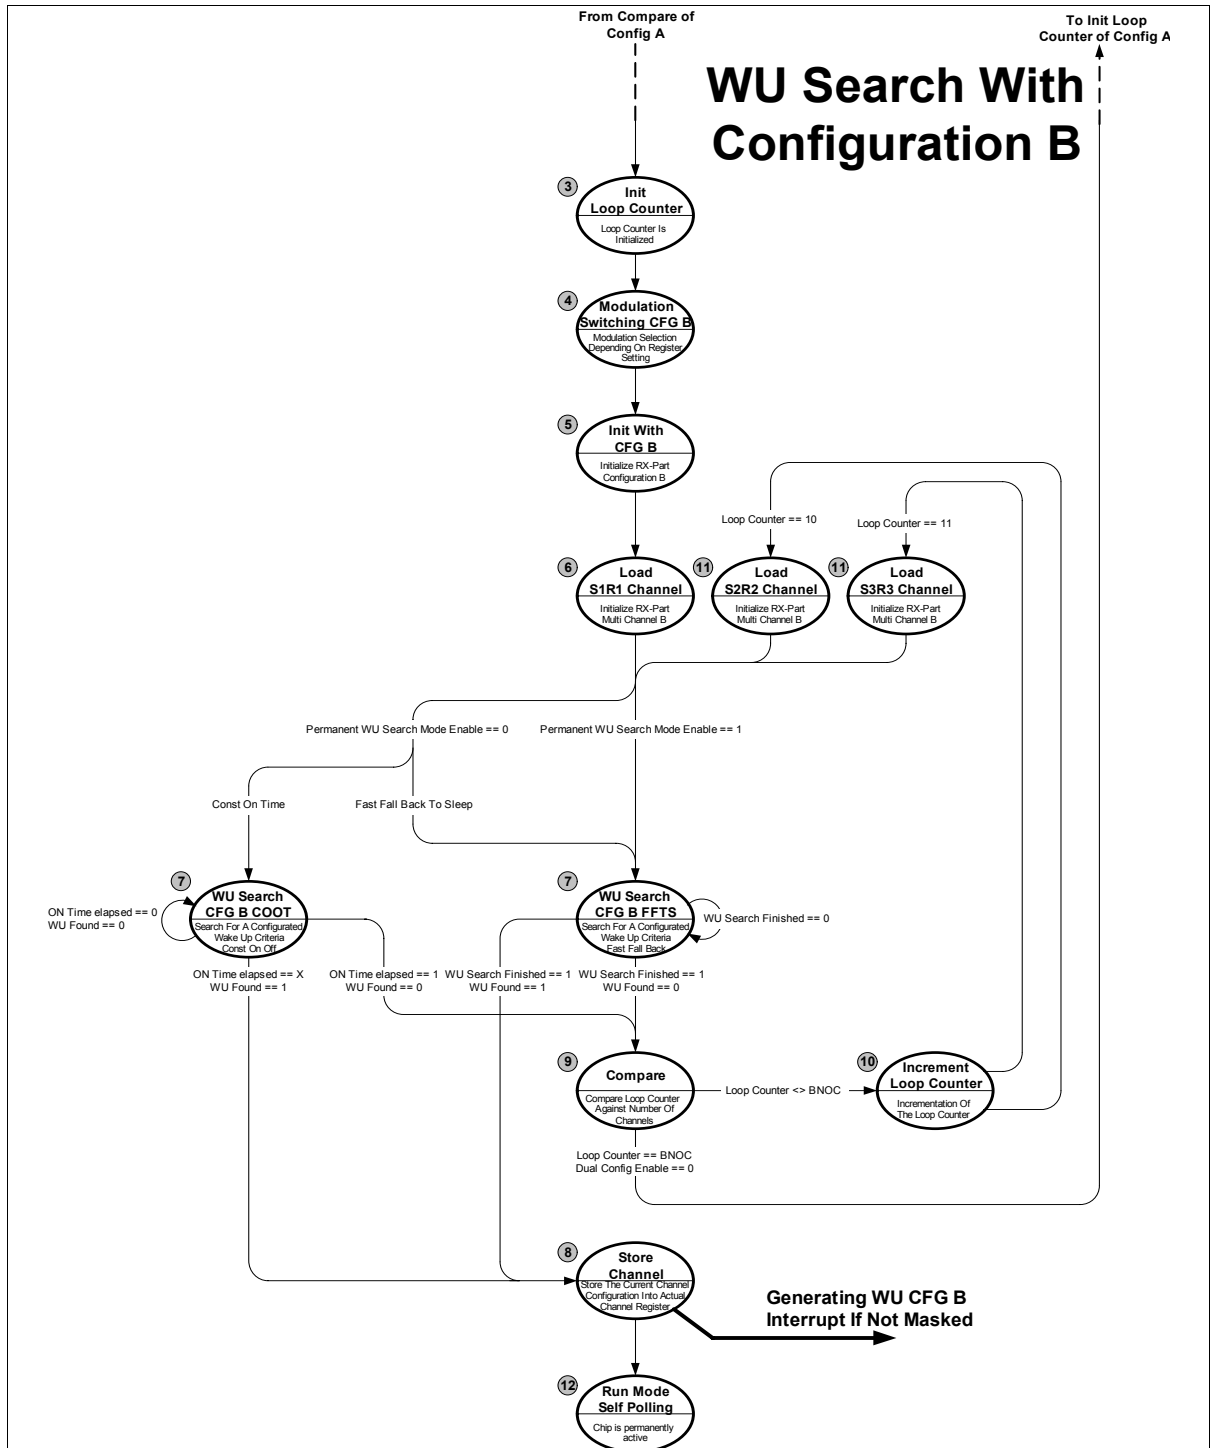

Figure 21 Wake up Search with Configuration B
- 9.) **Compare:** If the loop counter equals the number of channels selected by the SFR control bit ANOC, the next state of the chip will be the **Idle state**, unless dual configuration is enabled by the SFR control bit DCE. In this case, the next state will be **Init Loop Counter** in **Figure 21**. In all other cases, the chip resumes operation in the **Increment Loop Counter** state.